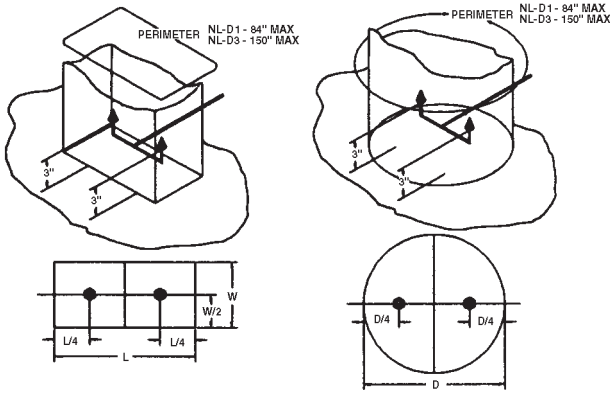

Figure 3-2.1. Dual Nozzle Placement In Duct.
Two (2) Model NL-D1 exhaust duct nozzles can protect a square or rectangular duct with a maximum perimeter of 84 inches and a maximum one-side length of 34 inches. They can also protect a round duct with a maximum circumference of 84 inches and a maximum diameter of 26.5 inches. When two (2) Model NL-D1 nozzles are used to protect a single duct, the cross sectional area of the duct must be divided into two equal symmetrical areas. The nozzle must then be installed on the centerline of the area it protects and aimed directly into the duct opening (see **Figure 3-2.1**).
Two (2) Model NL-D3 exhaust duct nozzles can protect a square or rectangular duct with a maximum perimeter of 150 inches and a maximum one-side length of 66 inches. They can also protect a round duct with a maximum circumference of 150 inches and a maximum diameter of 47.5 inches. When two (2) Model NL-D3 nozzles are used to protect a single duct, the cross sectional area of the duct must be divided into two equal symmetrical areas. The nozzle must then be installed on the centerline of the area it protects and aimed directly into the duct opening (see **Figure 3-2.1**).